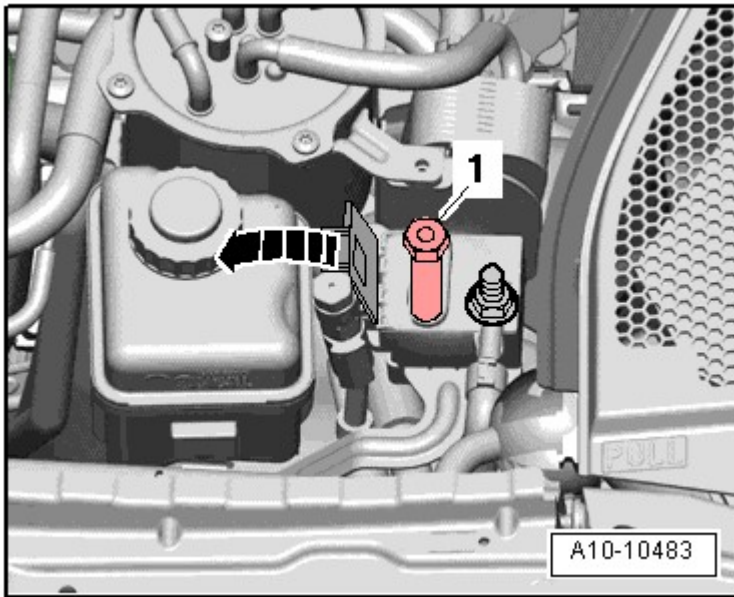

Fig. 91: Identifying Battery Jump Start Terminal -U6- Pins
- Tighten the battery jump start point -U6- pins. Refer to **Fig. 91**.